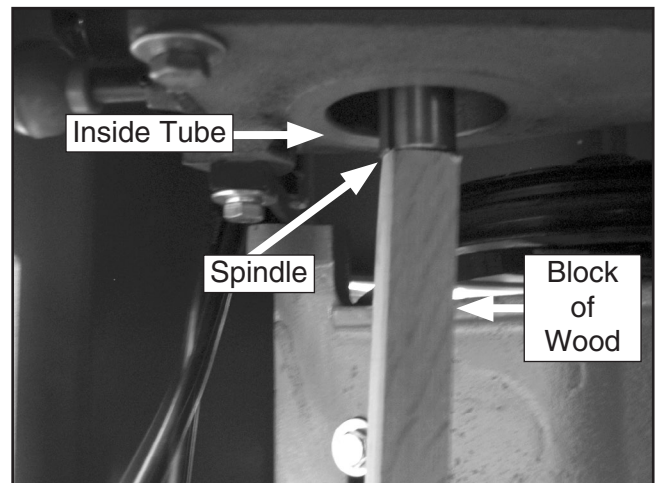

Figure 8. Removing the spindle.
- Place a 22" block of wood under the spindle, as shown in **Figure 8**. Lower the spindle by turning the elevation handle until the spindle can be removed from the top of the inside tube.